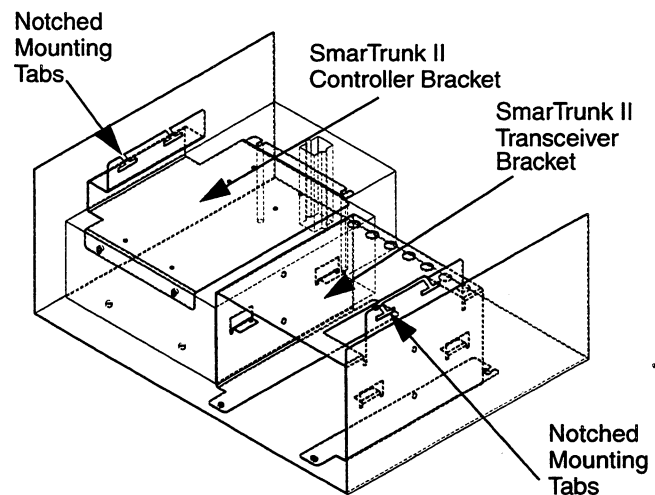

Figure 3-3. SmarTrunk II Brackets
- 3B. **For a SmarTrunk II Controller:** Locate the shorter SmarTrunk II transceiver bracket in kit HLN3043. Refer to Figure 3-3. From the front of the bracket, slide the transceiver, heatsink first, into the lowest slot of the bracket.
4. Locate the four (4) M5 x 8 T25 machine head screws in kit HKN9015.
5. Lift and align one side of the R1225 transceiver to the hole on the transceiver bracket and secure it with one (1) of the M5 x 8 machine head screws using a T25 Torx driver.
1. Locate the SmarTrunk II controller bracket in kit HLN3043. Refer to Figure 3-3.
3. Using the two (2) 8-32 screws removed in Step 5 under "Disassembling the Repeater Housing", secure the SmarTrunk II controller bracket to the front of the power supply. Tighten all four (4) 8-32 screws to 1.58 to 1.80 N-m (14 to 16 in.-lbs.) torque.